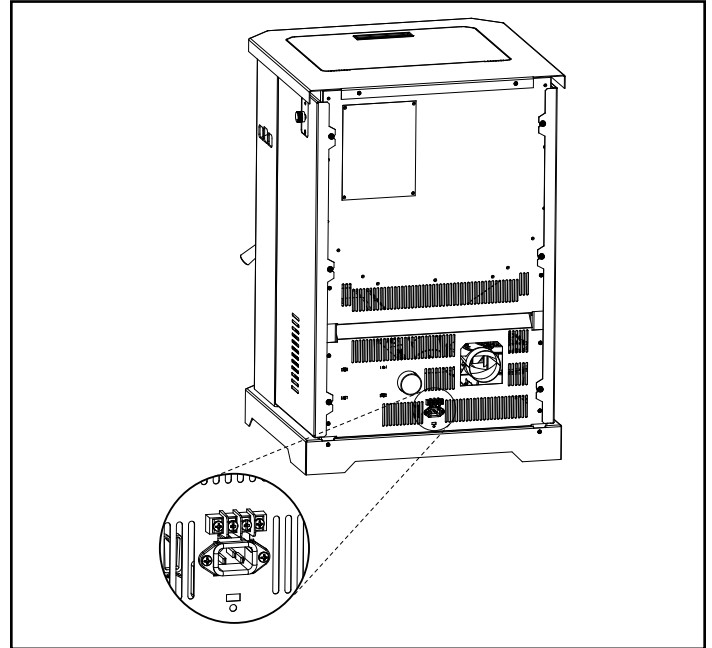

Figure 23.1
2. Connect the thermostat wire to the center two screws of the terminal block on the stove. (Figure 23.1)